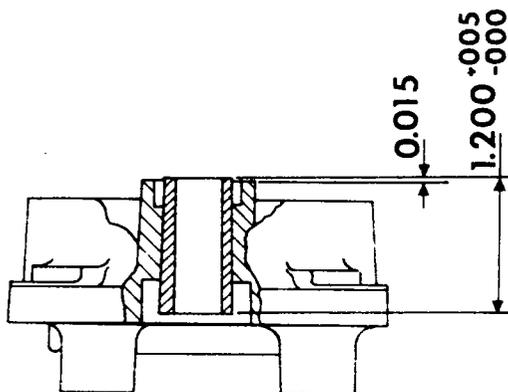

Figure 4.
- Use a suitable cutting tool and turn so that overall length of bushing is $1.200 + .005 - .000$ inch as shown in figure 4. (A Carbaloy tipped tool is recommended.)
of reworked bushing. See figure 4